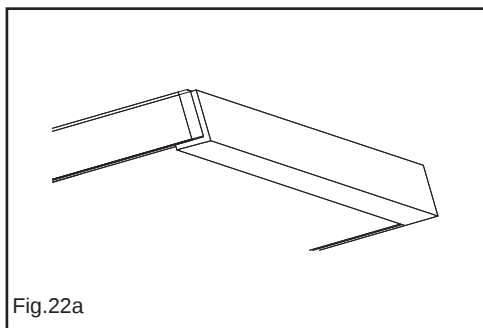

Fig.22a
- Glue the protection adhesive seal to hat glass (Fig.22a).